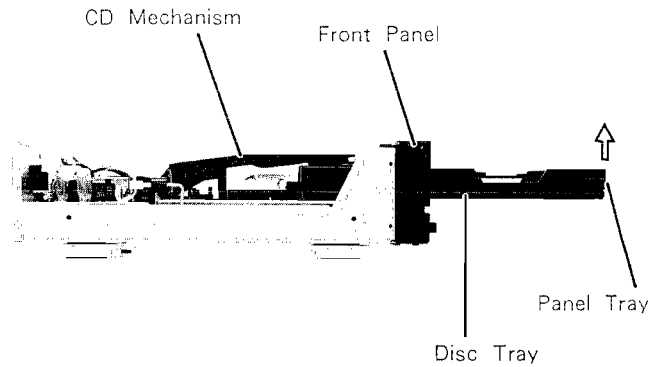

Figure 1
- (1) After removal of the top cover, open the disc tray as shown in Figure 1.
- (2) Remove the panel tray in the arrow direction as shown in Figure 1.